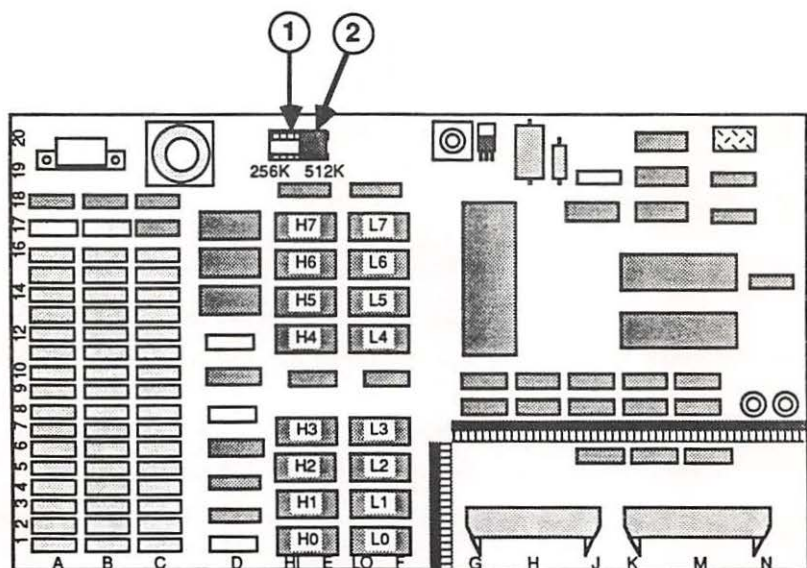

FIGURE 1
3. Remove the top cover of the LaserWriter and the card cage cover. Disconnect the cables attached to the I/O board and remove the board from the card cage. Place the I/O board on the grounded workbench pad. Orient the board so that it appears as in Figure 1. (Refer to the **LaserWriter Technical Procedures, Section 2, Take-Apart** for detailed safety and take-apart information.)
5. The upgrade kit includes a 16-pin socket that you must solder at position E-20 (See Figure 1, #1) if the socket is not present. To install the socket, follow the directions below:
6. Install the configuration block (see Figure 1, #2) into the right eight holes of the socket (labeled "512K").